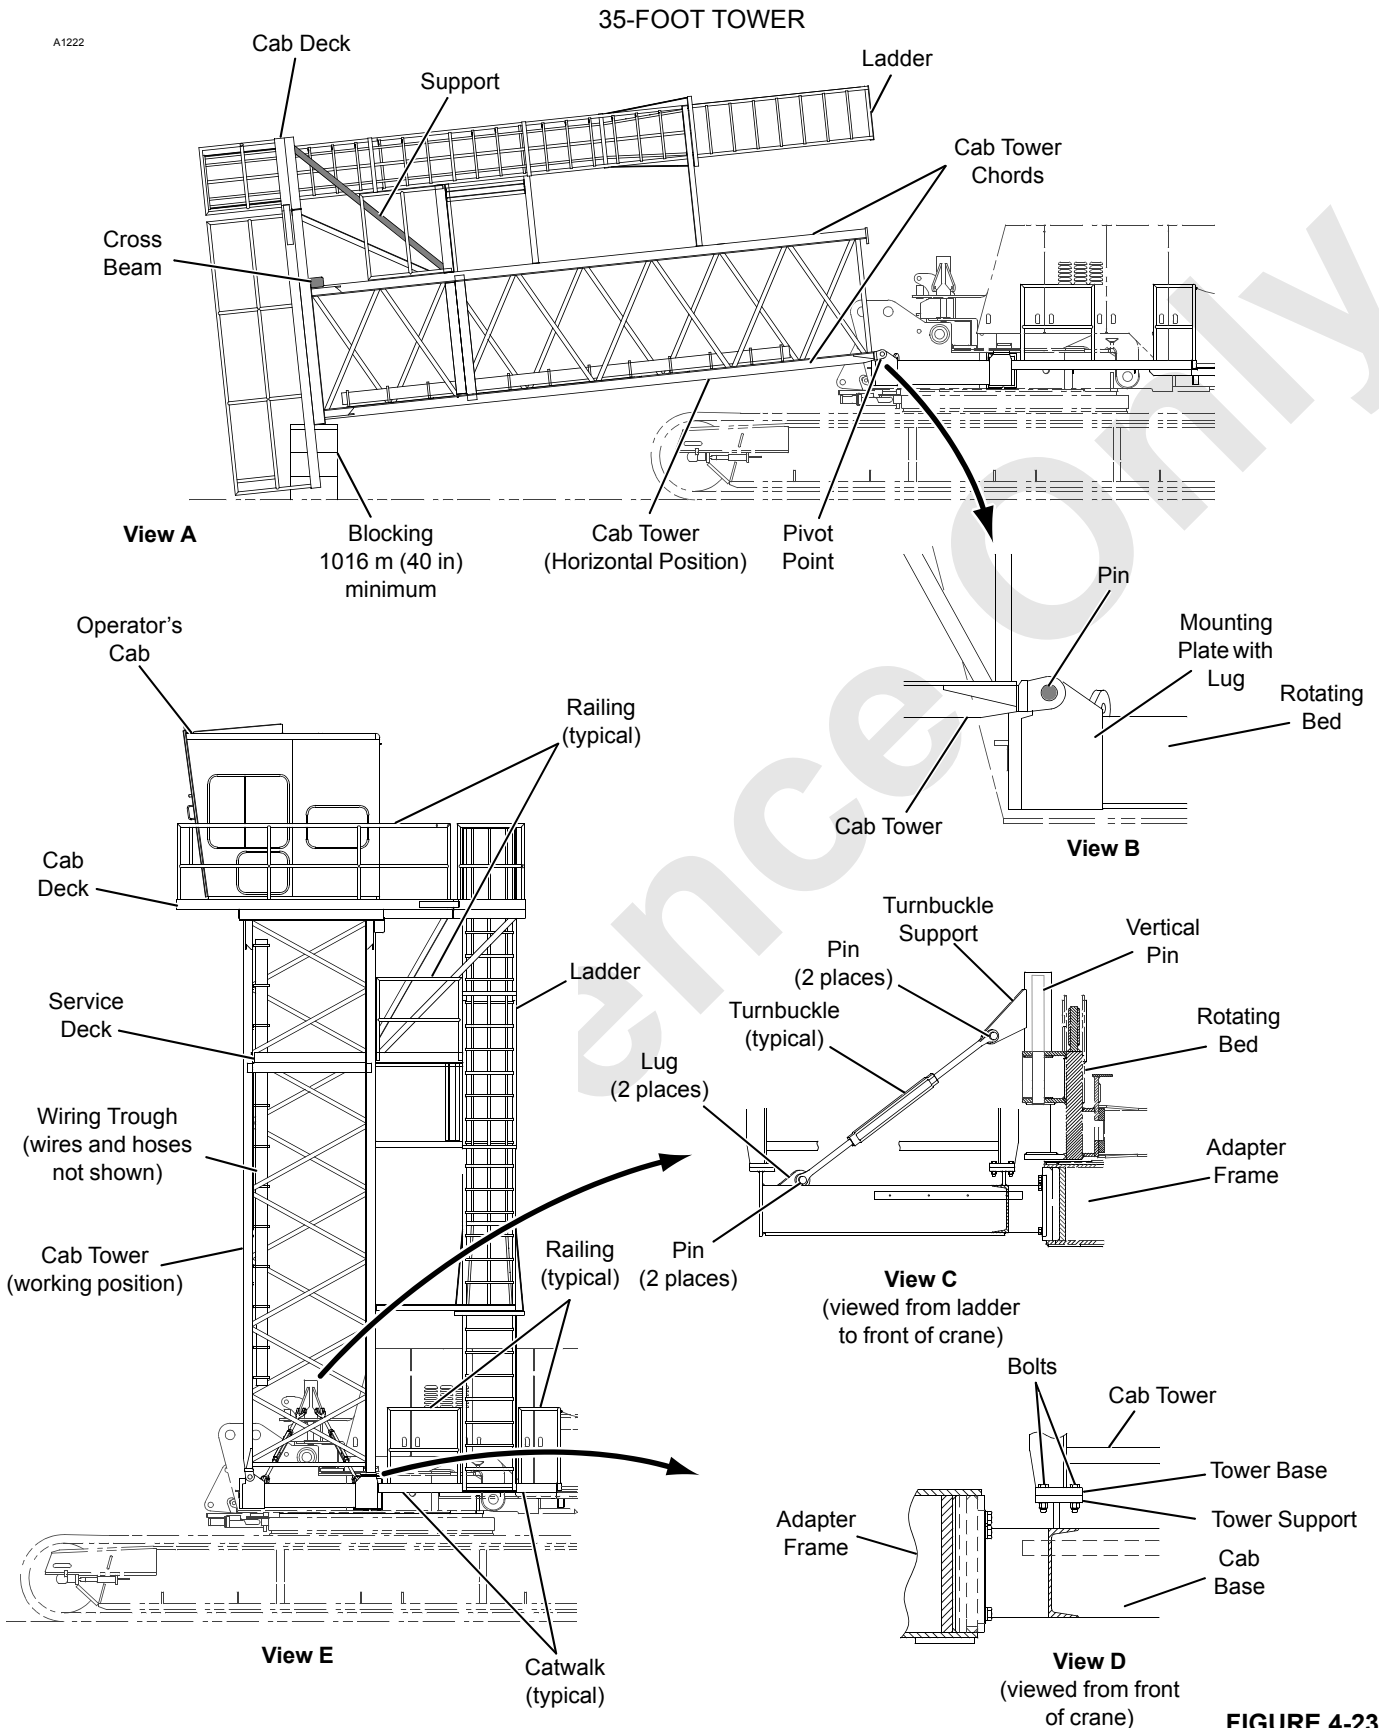

FIGURE 4-23
See Figure 4-23 for the following procedure.
Install the catwalks and railings as shown in Figure 4-23 and on the Operator's Cab Assembly drawing:
5. Using slings and shackles attached to the cross beam (Figure 4-23, View A), support the tower in the working position.
6. Remove the tower turnbuckles (Figure 4-23, View C).
7. Remove the bolts holding the tower to the mounting plate (Figure 4-23, View D).
8. Slowly lower the tower from the working position to the horizontal position, allowing it to pivot forward on the pins. Allow the cab deck to rest on the ground or the blocking (Figure 4-23, View A).
11. Remove the pins from the tower base (Figure 4-23, View B).